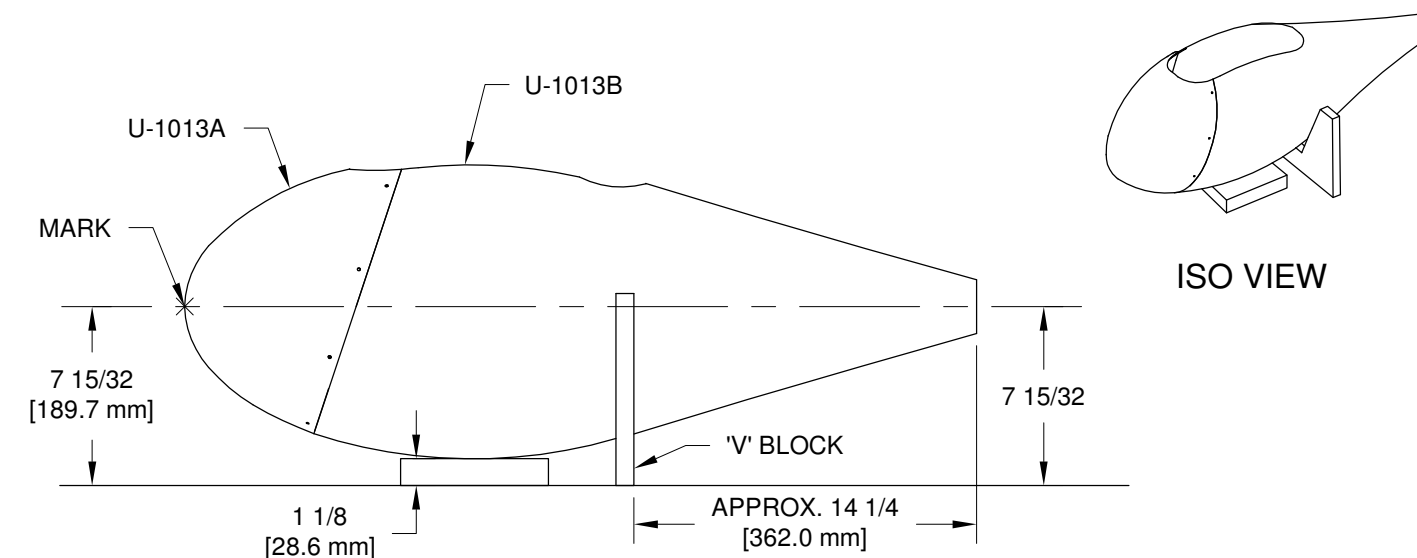

FIGURE 3: MARK FAIRING CENTERLINE AT ITS NOSE
Step 4: Cleco the wheel fairing halves together and place them into the 'V' block with the wheel opening facing upward as shown in the Iso View of Figure 3.